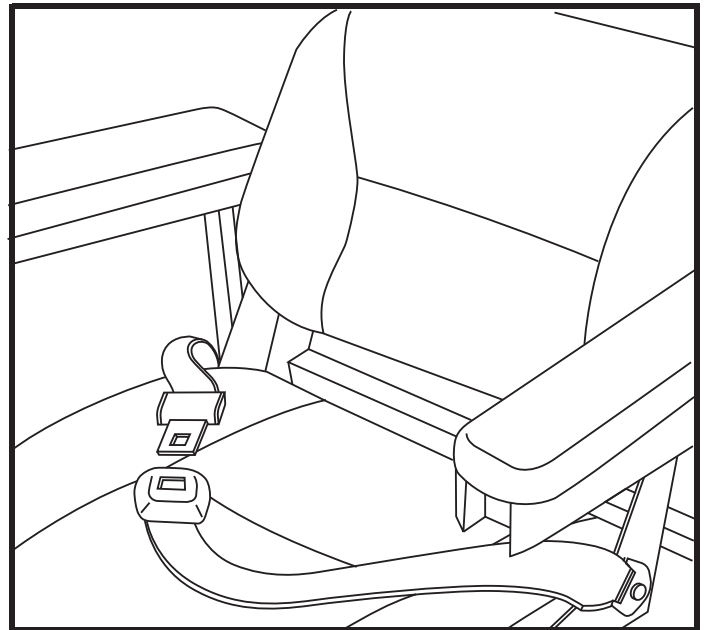

Figure 20. Positioning Belt Adjustment
Your power chair may be equipped with a positioning belt that can be adjusted for operator comfort. See **figure 20**. The positioning belt is designed to support the operator so that he/she does not slide down or forward in the seat. The positioning belt is not designed for use as a restraining device.
1. Once seated, insert the metal tab on one side of the belt into the plastic housing on the opposite side until you hear a click. See **figure 20**.